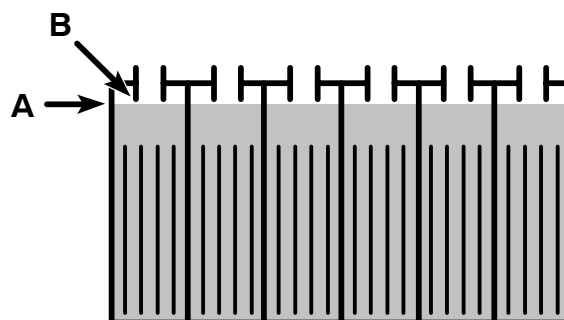

FIG. 21
7. After charging, check the electrolyte level (A) again. The level should be approximately 1 cm (3/8") from the bottom of the fill-port (B) (Figure 21). Add distilled water if needed. **DO NOT OVERFILL.**